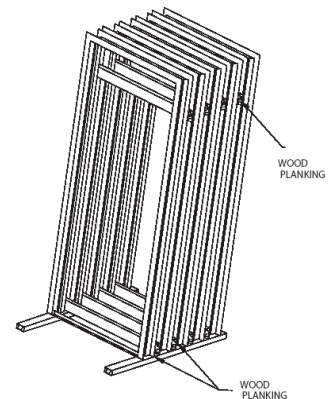

FIGURE 1
3. Store doors and frames in an upright position with heads uppermost, **Figures 1 and 2**.